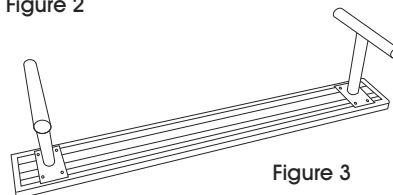

Figure 3
5. Flip the bench right side up. Make sure legs are evenly aligned to the edges and the bench is level. Tighten the bolts using a socket wrench. (See Figure 3)